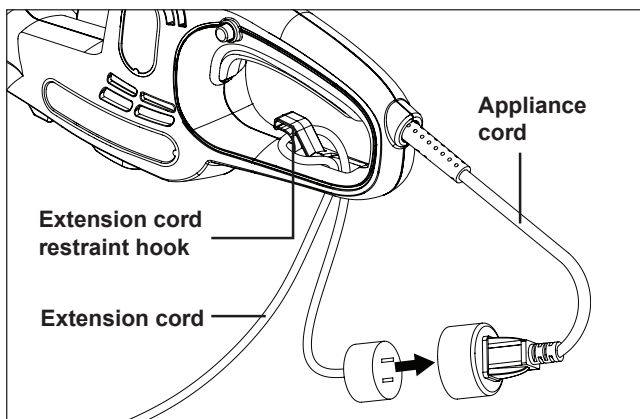

Fig. 1
2. Make a loop in the extension cord and push it up through the hole in the handle and around the cord restraint hook, then connect the extension cord to the appliance cord (Fig. 1).